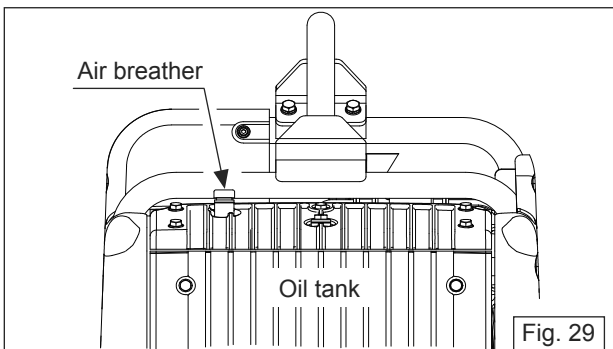

Fig. 29
- An air breather is attached to the oil tank. A cover is placed over the oil tank to prevent water from entering into it. Be sure not to lose the cover when you are doing high pressure washing. (Fig. 29)